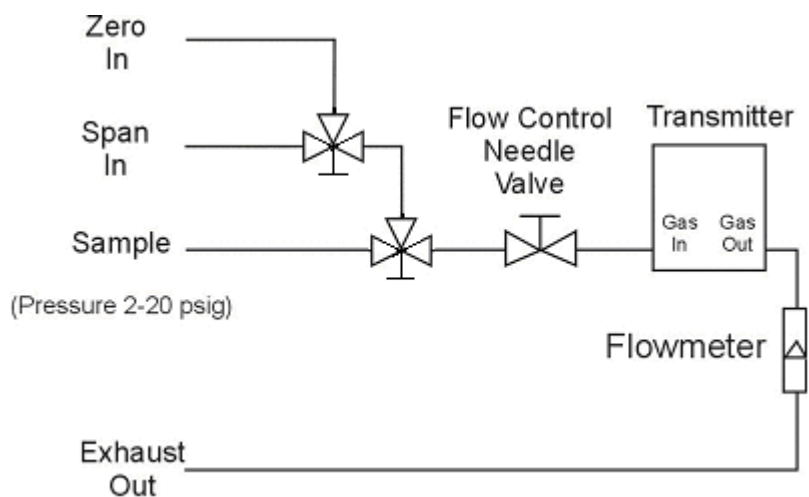

Figure 2-2: Recommended External Sample System
Control of the sample and supporting gases is not provided in the basic design. TAI offers a variety of supporting gas control panels as companion accessories to the analyzer to fill this need. In any case, means must be provided for controlling the flow rates of sample and calibration gas through the analyzer. A control manifold will be required for the introduction of zero and span gas, as well as sample gas, into the sample path. Appropriate pressure reducing regulators will have to be installed at all gas supply sources; for those customers wishing to incorporate their own sample controls, a recommended system piping drawing is shown in Figure 2.2 and a reference drawing is included among the drawings at the rear of the manual.
The external sample system should be capable of supplying clean, particulate-free and moisture-free sample gas to the transmitter. The sample gas must be regulated between 2-20 psig. A flow control device such as a flow meter with a needle valve should be incorporated to maintain gas flow within 0.4-2 SCFH. It is convenient to install valves in the sample system to allow switching between sample and calibration gas. Figure 2-2 is a typical sample system for delivering sample and calibration gases to the transmitter. It uses two (2) 3-way valves to deliver either sample or calibration (zero or span) gas to the transmitter.
The unit is manufactured with 1/4-inch stainless steel tube fittings for the inlet and outlet gas connections. Refer to Figure 2.2 in Section 2.3 for a recommended sample system.